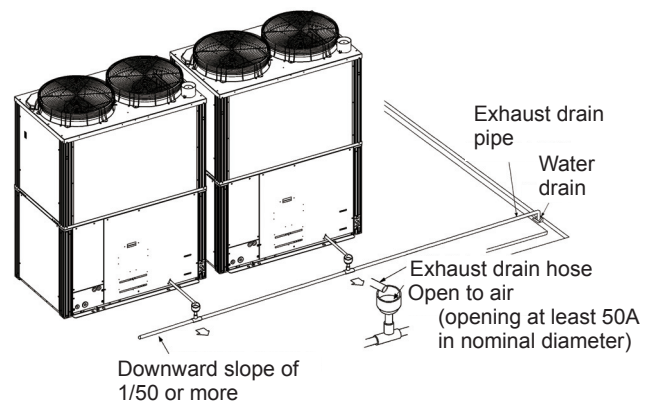

Fig. 14 Draining the exhaust into a water drain (roof)
- If installing the outdoor unit on a roof, extend the exhaust drain pipe to the water drain (as shown in Fig. 14).